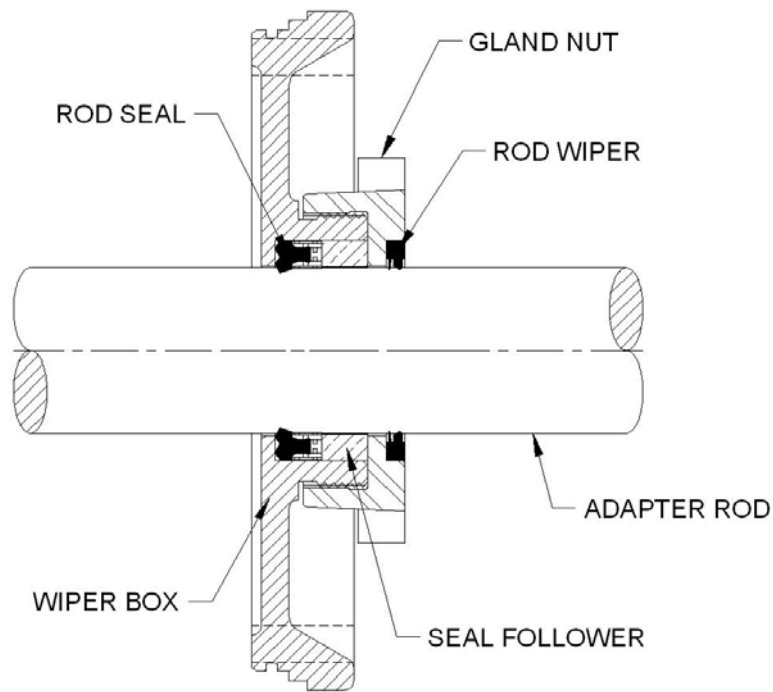

Figure 1
6. Remove the wiper box gland nut. (See Figure 1)
7. Remove the four (4) capscrews holding the power end stuffing box.